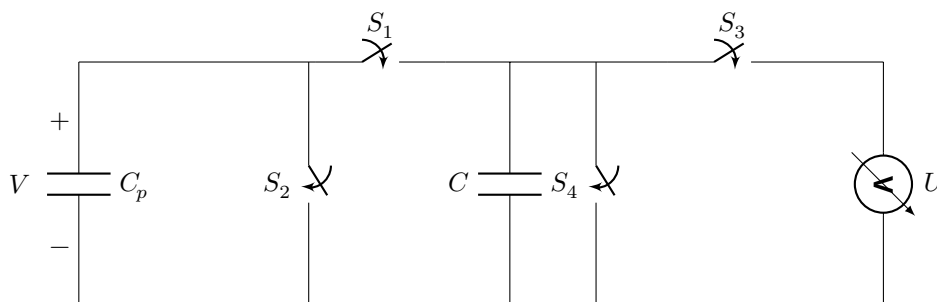

Figure 3: Circuit for measuring the force-voltage response of the piezoelectric element.
Figure 3 shows the circuit used to measure the force-voltage response. Let V be the voltage generated by the piezoelectric element, and let U be the voltage held on the known capacitor C and read by the voltmeter. The circuit uses 4 switches. In particular, S_2 and S_4 are switches for discharging the piezoelectric element and the known capacitor, respectively.
- D.2** Draw a simple diagram showing the arrangement of the piezoelectric element, the scale, and the way the force is applied. Then list the measurement procedure using the circuit in **Figure 3**. The procedure must make it possible to read the value of V corresponding to a particular instantaneous value of the force F applied to the piezoelectric element, and must include the operation for discharging the piezoelectric element and the capacitor before measuring another value. Briefly explain why U must be read quickly after opening/closing the switch for voltage readout. 1.1pt
- D.3** In the circuit of **Figure 3**, give the formula relating the readout voltage U to the voltage V of the piezoelectric element. Also give the formula relating the scale reading M to the force F . 0.3pt
Table D-1 shows the measurement results. Here M is the scale reading, and U is the voltage read across the capacitor in **Figure 3**.
The collision occurs in a very short time, so the maximum voltage cannot be read directly by the method of Part D. Therefore, based on the circuit in **Figure 3**, add a diode so that charge flows only from the piezoelectric element toward the known capacitor C , thereby holding the maximum voltage.
E.5 To measure $V_{\max}$ during the collision process, where and in which direction should a diode be inserted in the circuit of **Figure 3**? Draw the complete circuit diagram. 0.5pt